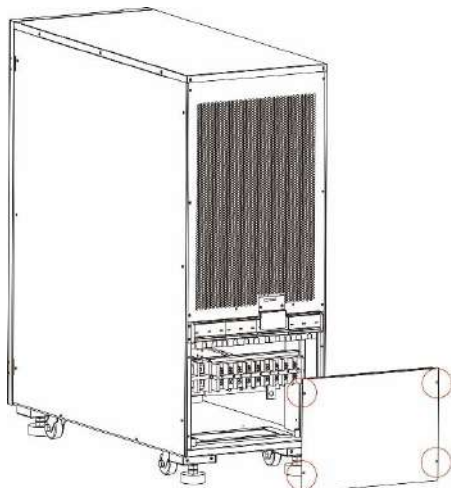
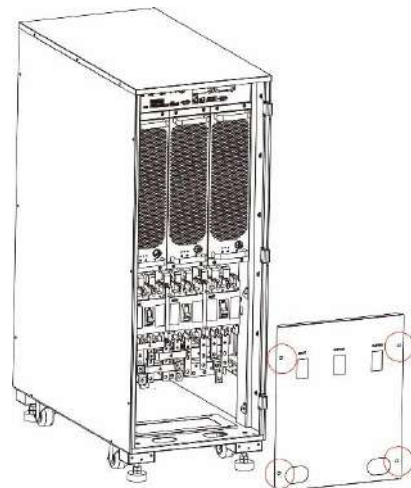

Fig. 3-6 Remove the cover of distribution unit (40/60 kVA)
Fig. 3-7 Remove the cover of distribution unit (80/120 kVA)
Step 7: turn the wrench counterclockwise to raise the four support feet at the bottom of UPS until all the four wheels at the bottom of the case are evenly landed and the support feet are completely suspended. See Fig. 3-7.
Step 5: open the front door and remove the cover panel of the distribution unit, as shown in Fig. 3-6 and Fig. 3-7.
Step 1: remove the cover plate of distribution unit (80kVA/120kVA need to open the front door first), as shown in Fig. 3-6 and Fig. 3-7.